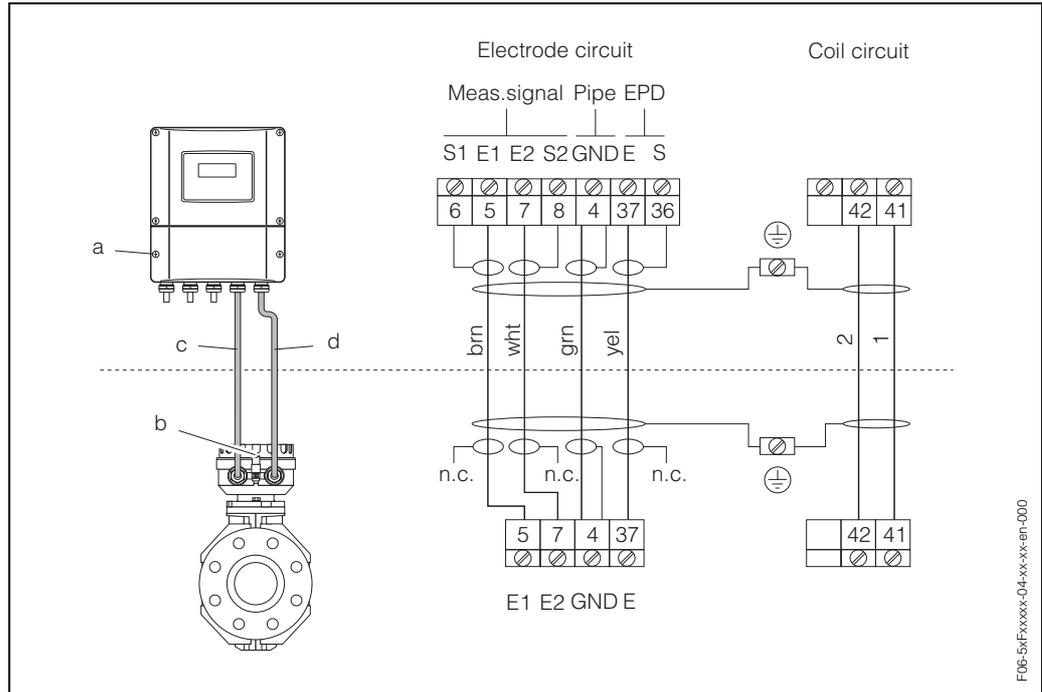

Fig. 26: Connecting the remote version of Promag W/P
Procedure (Fig. 26):
- Fig. 26